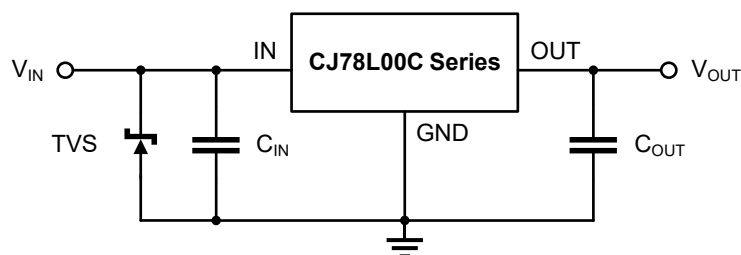

Figure 9-2. TVS is used at IN
1. Place a TVS between the IN and GND of the voltage regulator to absorb the peak voltage that may be generated due to ESD or other reasons. As shown in Figure 9-2;
For the CJ78L00C series, it is recommended that the peak voltage should not exceed 36V. When the input voltage of the operating circuit may not meet the application conditions described above, it is recommended to adopt the circuit layout shown in Figure 9-2 to 9-4 in the circuit design. During the power supply design process, the designer must inspect the application circuit to ensure that under no circumstances will the IC be damaged due to the reasons mentioned above.
It is recommended that the C_{OUT} should not exceed $20\mu\text{F}$. When the C_{OUT} exceeds $20\mu\text{F}$, it is recommended to use the circuit layout shown in Figure 9-2. See *Large Output Capacitance* for more details.